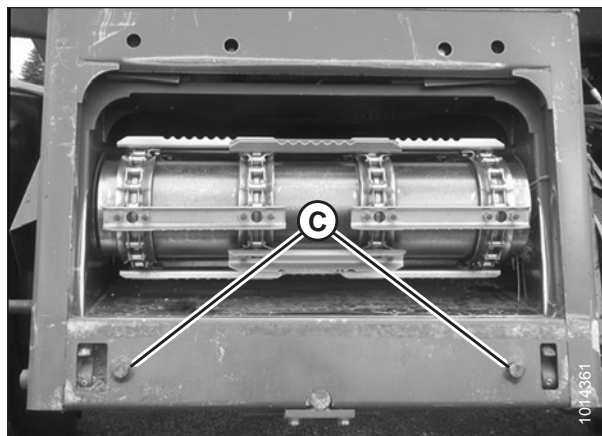

Figure 4.69: AGCO Group Alignment Pins
2. Start the engine and slowly approach the header until the feeder house is directly under the float module top cross member (A) and the alignment pins (C) (refer to Figure 4.69, page 341) on the feeder house are aligned with the holes (B) in the float module frame.